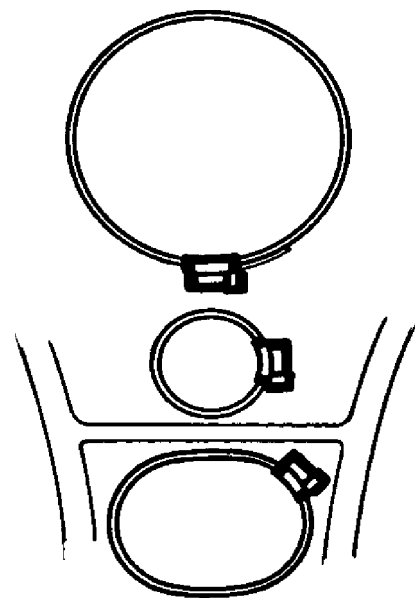

Fig. 48.
6. Hang up the hose clips (22, 50, Fig. 56) for the exhaust and cooling-water hoses. Connect up the hoses and tighten the hose clips. The tightening screws should be placed on the side of the hose. The hose clips for the exhaust hose should be turned as shown in Fig. 48. It is extremely important that the clips are fitted properly, otherwise they may damage adjacent hoses as well as hinder the movements of the drive.